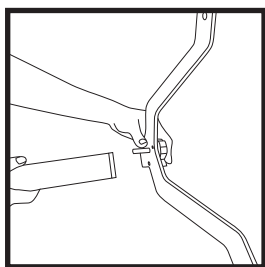

Fig. 1
2. Screw the legs to the bases with the knobs (Fig. 1 and 2).